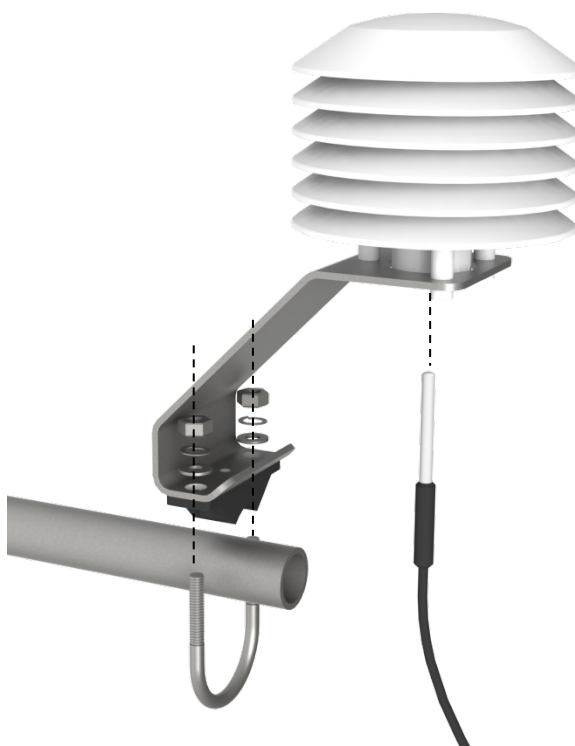

FIGURE 6-4. Mounting the IRGASON temperature probe
8. Mount the IRGASON temperature probe so that it measures temperature at the same height as the sample volume of the IRGASON. To do this, first attach the 6-plate solar radiation shield to the mast with the included u-bolt. Next, insert the end of the probe into the hole on the bottom of the shield. Tighten the screws to hold the probe in place, as shown in FIGURE 6-4. For more detailed information about the temperature probe installation and specifications, refer to the *Model 107 Temperature Probe* manual, which is available at www.campbellsci.eu.